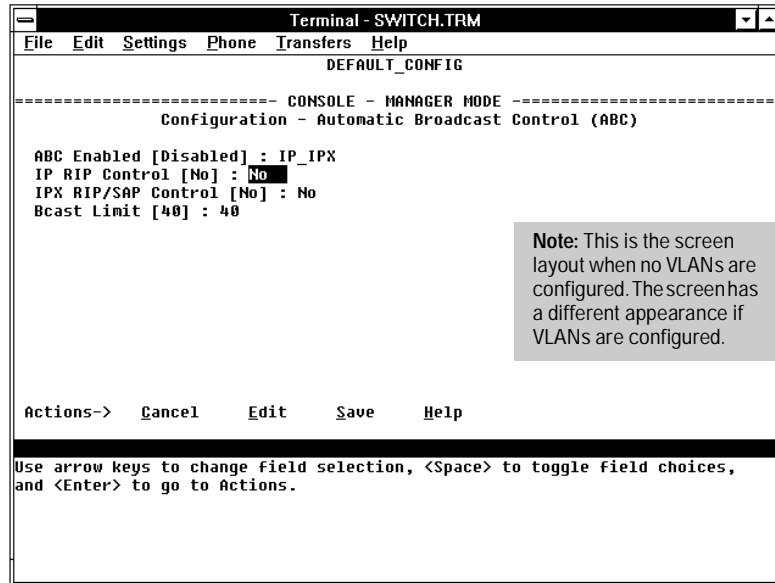

Figure 7-20. ABC Enabled With Default IP_IPX Option (No VLANs Configured)
- If you enabled ABC for IP_IPX and pressed an arrow key (figure 7-20, below):